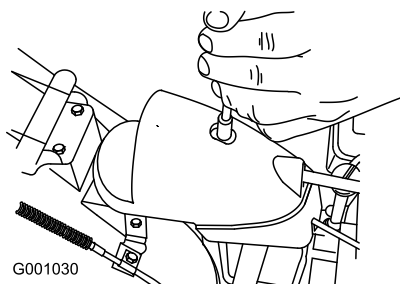

Figure 60
1. Remove the fastener on the gear cover (Figure 60), lift the front of the cover up, and slide it back and out of the way.